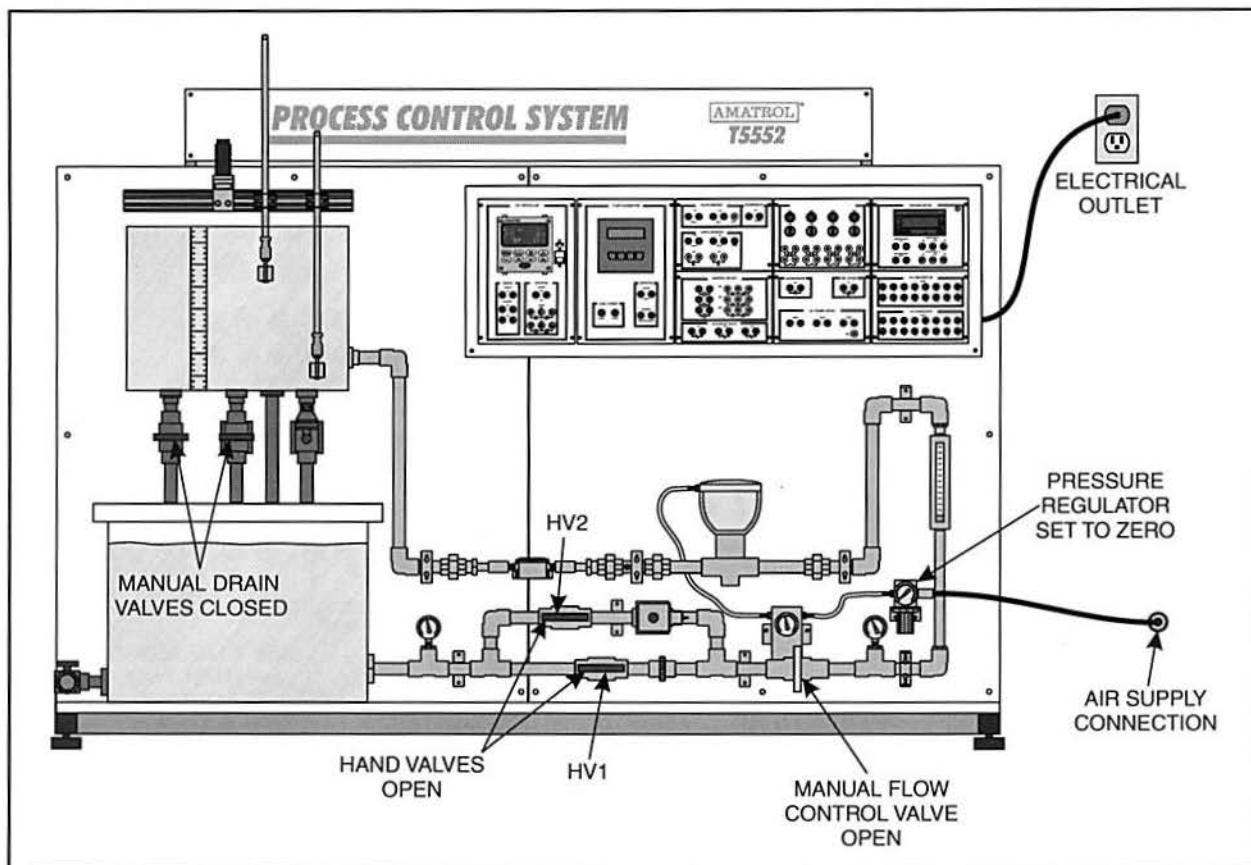

Figure 23. T5552 Setup
- 2. Perform the following substeps to set up the T5552, as shown in figure 23.